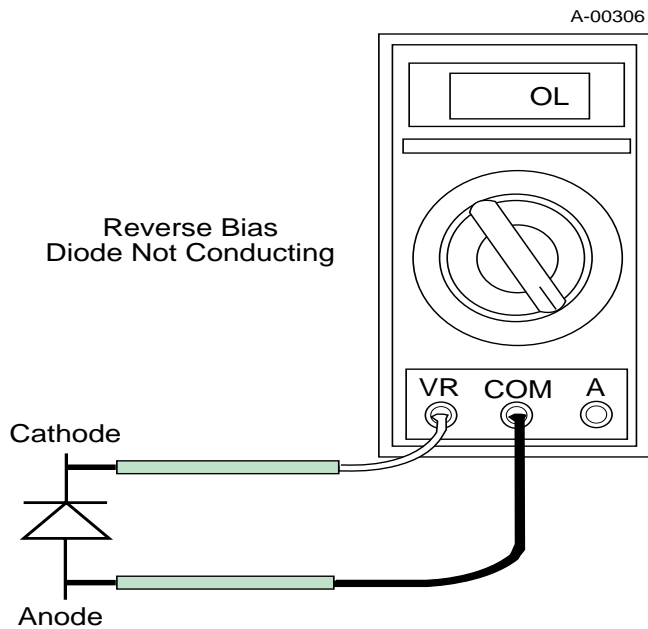

Figure 4-2 Testing Diode Reverse Bias
6. Reverse the meter leads across the diode for reverse bias testing (refer to Figure 4-2). A properly functioning diode will block in the reverse bias direction and depending on the meter function will indicate an open or "OL".